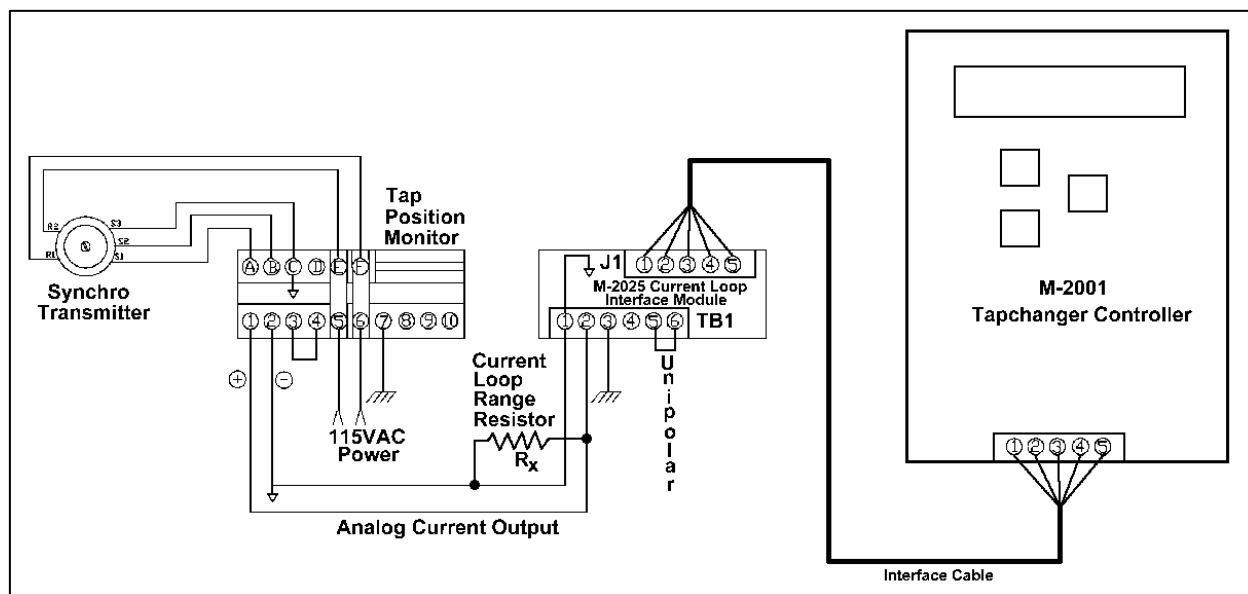

Figure 1 Wiring for model 1250B-0, 1250B-2, 1250LTC-0 and 1250LTC-2
1. See figures 1 to 6 for the appropriate wiring of the Tap Position Monitor being used.